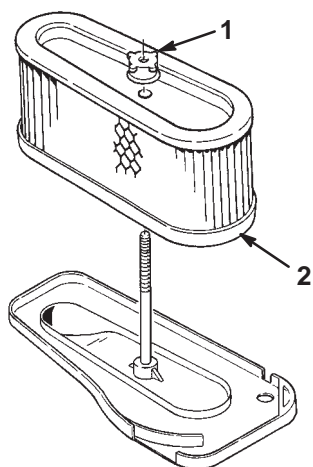

Figure 24
5. Unscrew the rubber nut and remove the paper element (Fig. 24).
2. Slide the air cleaner assembly onto the long rod. Screw the rubber nut finger-tight against the air cleaner (Fig. 24).